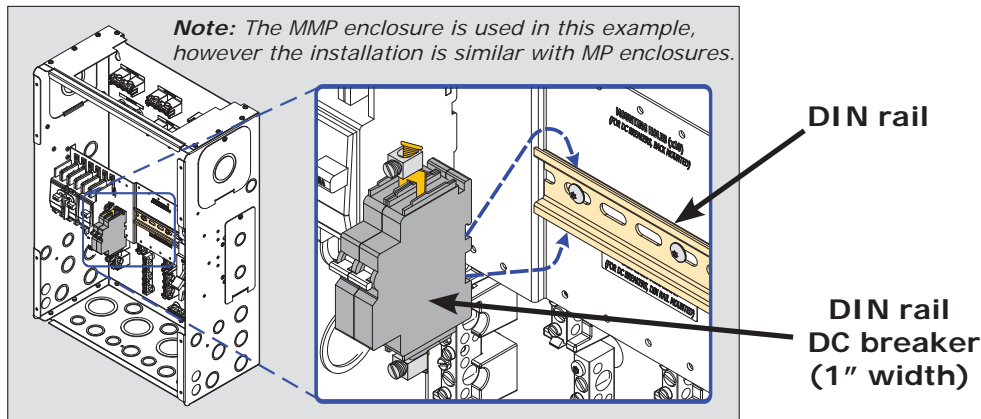

Figure 2, Installing DIN Rail Mounted DC Breakers
2. Position the breaker(s) on the DIN rail mounting track (Figure 2), and slide them all the way to the left end of the DIN rail.